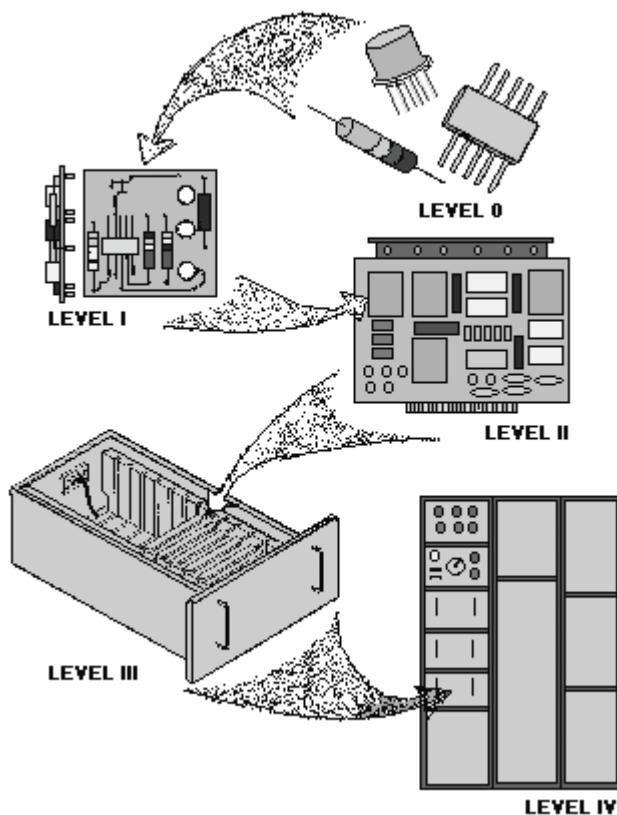

Figure 1-36.—Packaging levels.
For the benefit of the technician, system packaging is usually broken down to five levels (0 to IV). These levels are shown in figure 1-36.
**LEVEL III.**—Drawers or pull-out chassis are level III units, as shown in figure 1-36. These are designed for accessibility and ease of maintenance. Normally, circuit cards associated with a particular subsystem will be grouped together in a drawer. This not only makes for an orderly arrangement of subsystems but also eliminates many long wiring harnesses. Defective cards are removed from such drawers and defective components are repaired as described in level II.